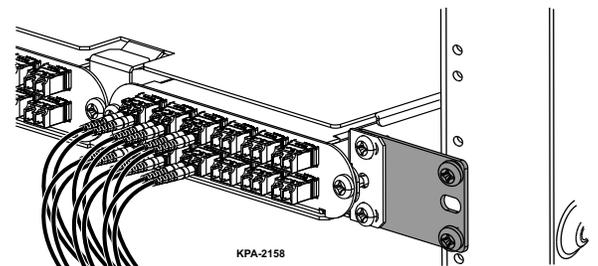

Figure 7— Attach Mounting Brackets to Rack
Step 3: Slide the housing into place in the rack or subfloor and secure the mounting ears (or adapter brackets) to the rack with the screws provided (Figure 7) or to the floor with hardware appropriate for your application.
Step 2: Remove dust caps from the connector and the adapter where the connector will be mated. Clean the connector end-face and adapter per standard company practices or as described in Section 5. Mate connectors in the adapters (Figure 7).